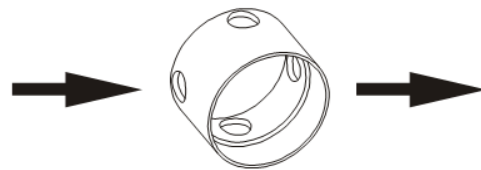

Figure 6: Parallel setting for warm air conditions
Step 1: To access the fan switch, you must first remove the cover by unscrewing the two screws at its sides. See Figure 6 for fan switch location.
NOTE: Turn feeler so holes are parallel if the surrounding air is warm (over 23 °F). Turn feeler so holes are closed off if the surrounding air is cold (under 23 °F). See Figure 6 & 7.